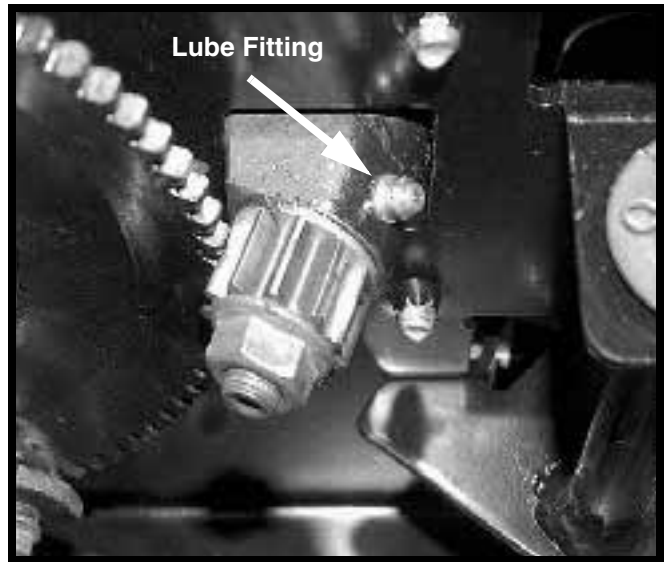

FIGURE 7
28. FIGURE 7 shows the installed lube fitting.